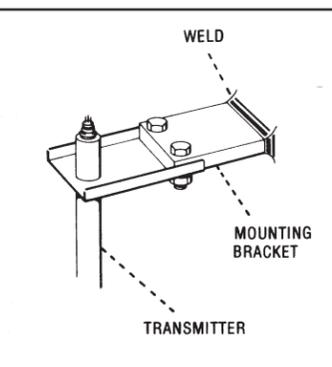

Fig. 4
**Note:** Transmitters may be mounted by means of mounting brackets (furnished with units) to flat surfaces, or by means of ladder brackets or sounding tube brackets (available separately). See Figs 4 and 5.